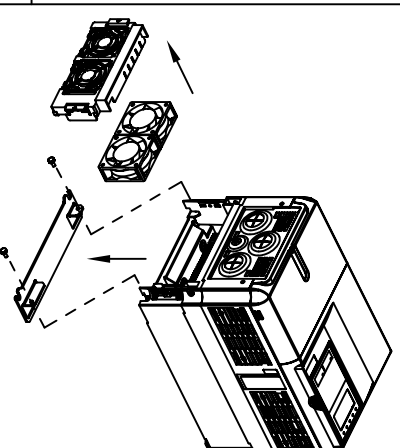
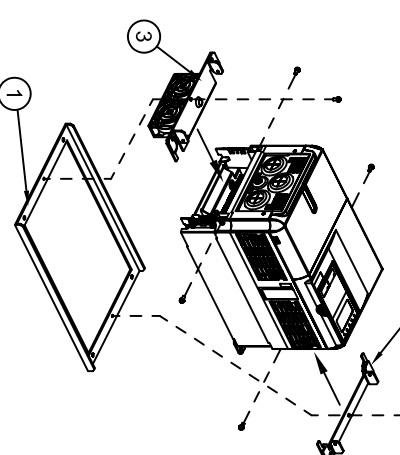

FIGURE 3-1
FIGURE 3-3
- SEE FIGURE 3-1
- 1) REMOVE LOWER MOUNTING BRACKET BY REMOVING (2) SCREWS. THIS PART IS NOT NEEDED WITH RING ATTACHMENT.
- 5) COMPLETE FAN BRACKET SUBASSEMBLY USING FINGER GUARDS AND FAN SCREWS (4) M4X35.
- SEE FIGURE 3-3
- 6) INSERT FAN BRACKET SUBASSEMBLY AND TOP MOUNTING BRACKET TO UNIT AS SHOWN ON DRAWING. SECURE EACH BRACKET WITH (2) M4X10 SCREWS.
- 9) USE (2) M4X10 SCREWS TO HOLD THE RING IN PLACE WITH THE UNIT. FOR UDA00417-H, ALSO ATTACH (4) M6X16 SCREWS TO RING.